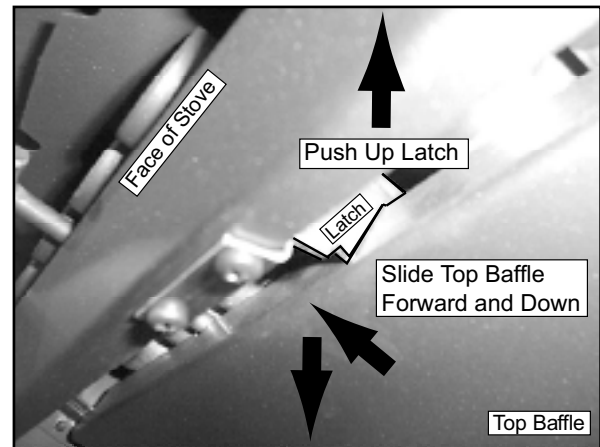

Figure 33.2
- Push the latch up with your finger while sliding the top baffle forward and down. **Figure 33.2.**